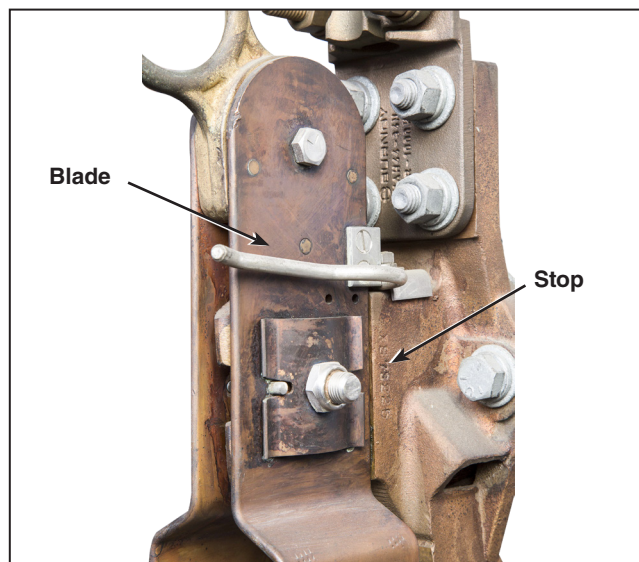

Figure 3a. Type NL Regulator Bypass Switch. Check that each blade is against the stop. (Type NL Interrupter Blade shown, Disconnect and Bypass Blades similar.)
- (a) When the interrupter blade is in the closed position, the main contacts should be fully closed. On Type NL Switch Blades, the blade will rest against the stop. See Figure 3a. On Type XL Switch Blades, the stationary contact will protrude approximately $\frac{1}{4}$ inch from the blade contacts. See Figure 3b.